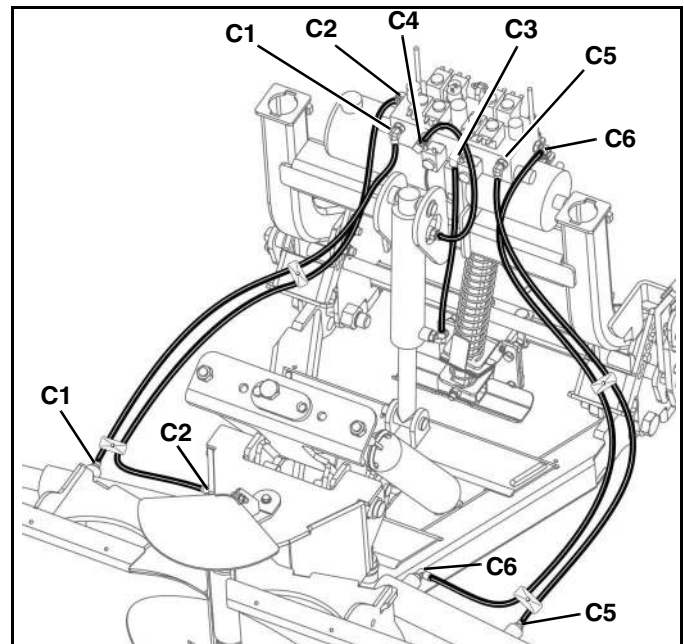

Figure 1-23
- 15. Connect hoses to the lift and swing cylinders. (See Figure 1-23).